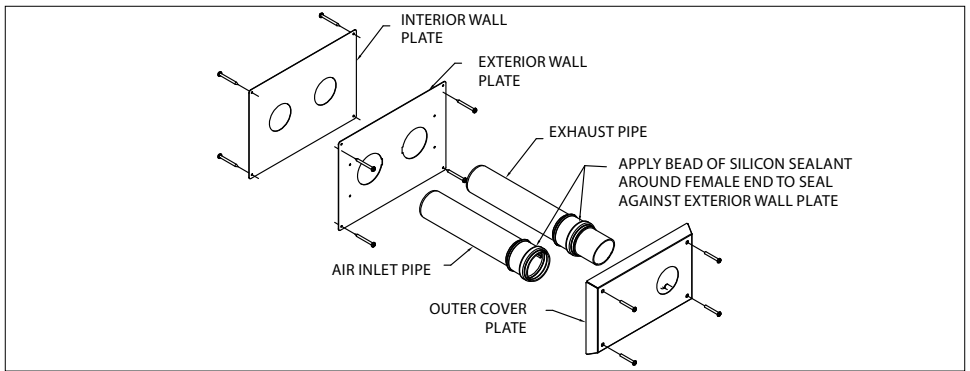

Figure 11
Twin Pipe Termination: Mount the Exterior Wall Plate of the Termination on the outside wall, using RTV silicone sealant between the plate and the wall to prevent rain infiltration (**Figure 11**). Secure the back plate in place with (4) 1-1/2" wood screws or appropriate hardware for your exterior wall. From the outside, apply a bead of silicone sealant around the female end of the pipe where the plate will meet the flared end (**Figure 11**). This is needed to weatherize the connection. Then slide the two PolyPro vent pipe section into the holes of the Exterior Wall Plate (male end first). Twist the pipe so the female end's keyway slides past the Exterior Wall Plate as shown. If needed, the PolyPro vent pipe sections can be cut to length for your